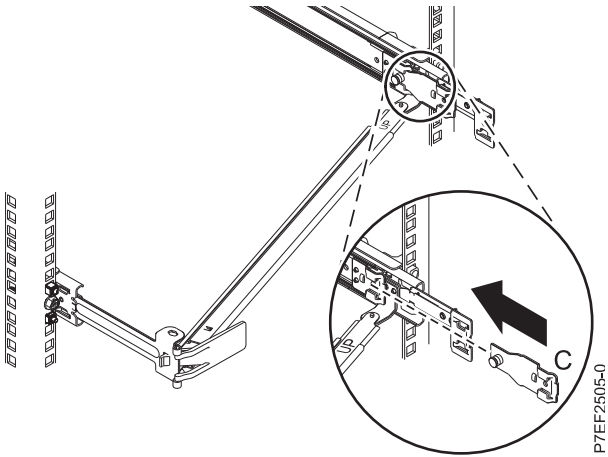

Figure 14. Installing the mounting bracket into the slide rail
6. Attach the mounting bracket (C) to the slot on the inside of the right slide by sliding the mounting bracket (C) into the slide rail until the spring-loaded pin snaps into place. For details, see Figure 14 on page 12.